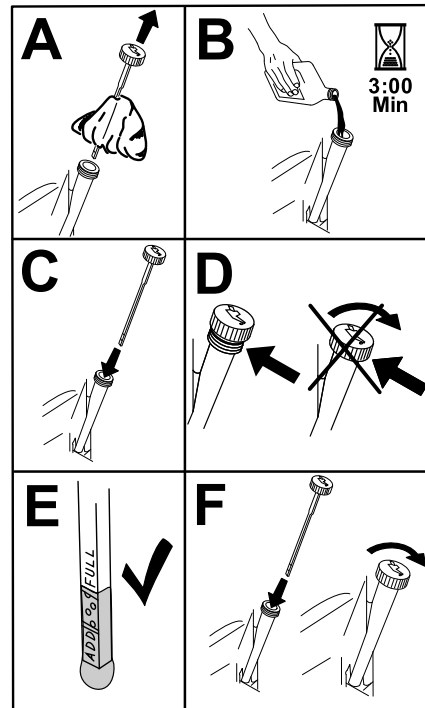

Figure 36
8. Slowly pour approximately 80% of the specified oil into the filler tube and slowly add the additional oil to bring it to the **Full** mark (Figure 36).